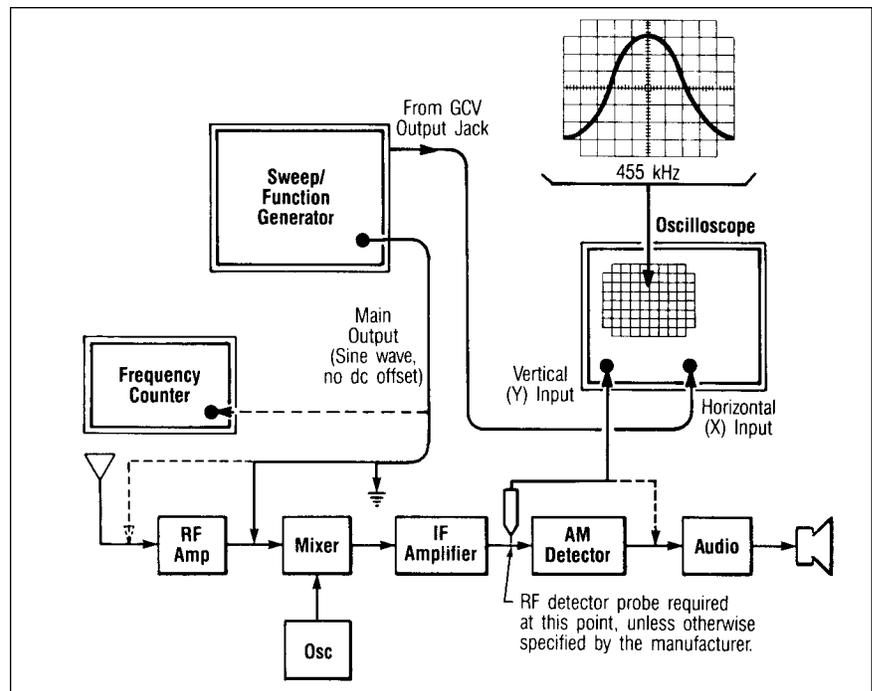

Fig. 16. AM receiver alignment
ble bandwidth. Frequency response displays of filters and coupling networks show the cut-off frequency and the sharpness of the cutoff. The frequency response display is often the basis for alignment of RF circuits (Figs. 16 and 17). The display also may be analyzed to determine the center frequency of bandpass, symmetry of bandpass, bandwidth, gain or signal amplitude, Q, and rejection of adjacent frequencies.
1. Use the test set-up of Fig. 16, with the generator set to produce a linear sweep display.